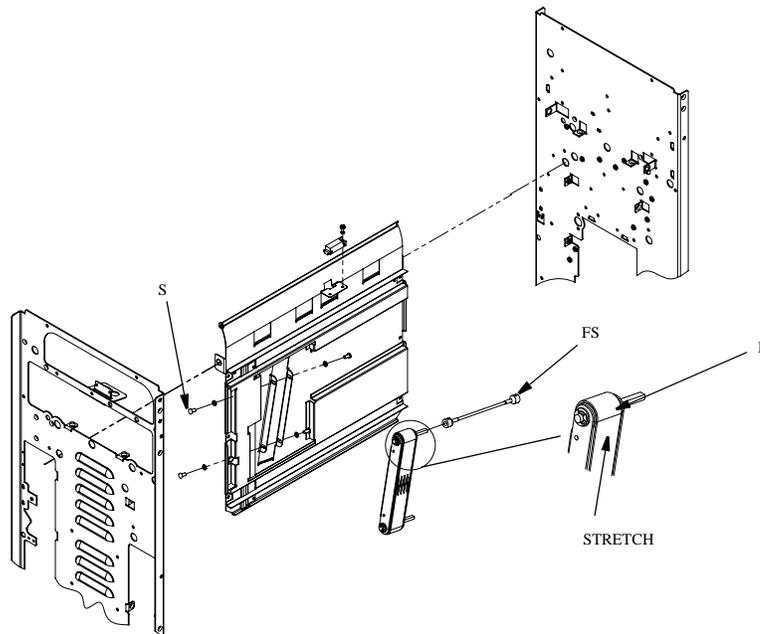

Figure 4.23 Removing the green drive belt.
1. Stretch the new Belt (B) onto the Aligner Roller assembly, green side out. Rotate the Shaft (S) to confirm that the belt tracks properly.
**Note:** The green drive belt should look like the drawing shown in Figure 4.23.